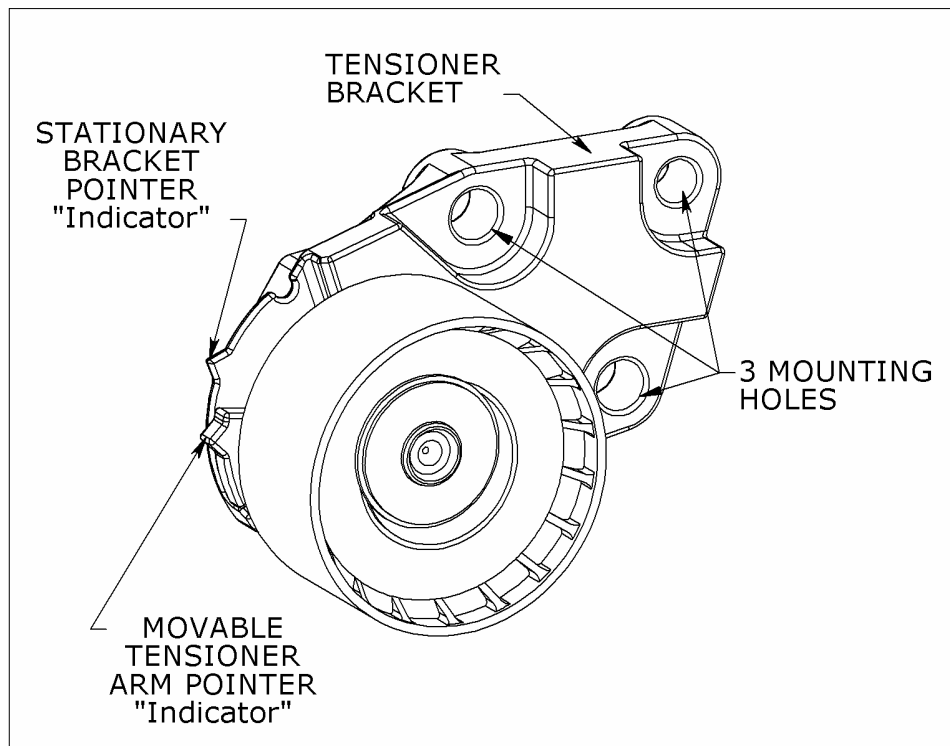

Figure 1. Timing Belt Tensioner
6. Install a new tensioner (Figure 1) onto the engine and tighten the three (3) M8 Tensioner Mounting Bolts with **28.0 ± 5.5 Nm** of torque.